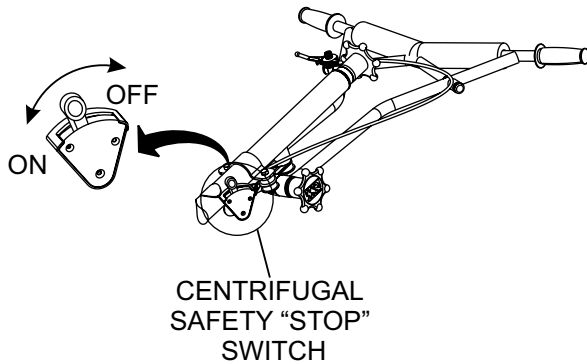

Figure 26. Centrifugal Safety "Stop" Switch (ON)
4. Place the **centrifugal safety "STOP" switch** (Figure 26) in the "ON" position.